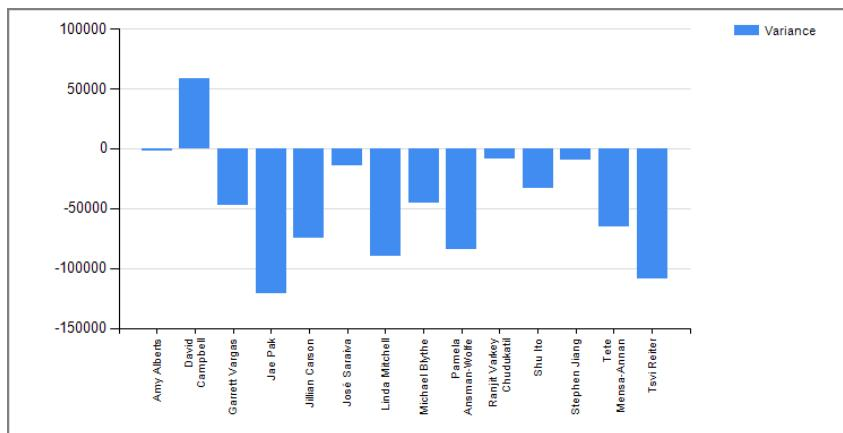

Figure 13-15
4. Preview the chart (see Figure 13-15) to reveal that the x-axis is not set at zero as you have typically seen.